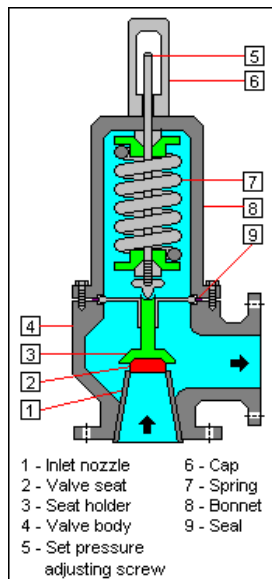

Figure 7. Relief Valve (poppet)
3. Poppet type—in pressure relief valves with a poppet type valving device, a cone-shaped poppet may have any of several design configurations; however, it is basically a cone and seat which are machined at matching angles in order to prevent leakage. As the pressure rises to its predetermined setting, the poppet is lifted off its seat, as in the ball-type device. This allows the fluid to pass through the opening created and out of the return port. An example for a poppet relief valve can be seen on figure. 7.